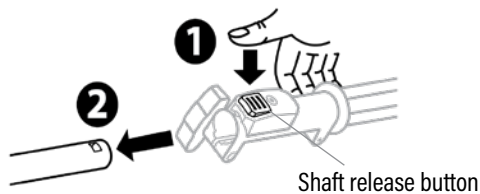

Fig. 4B
3. Press the shaft release button and then, pull the attachment shaft or extension tube out from the powerhead shaft to remove it. (Fig. 4B)